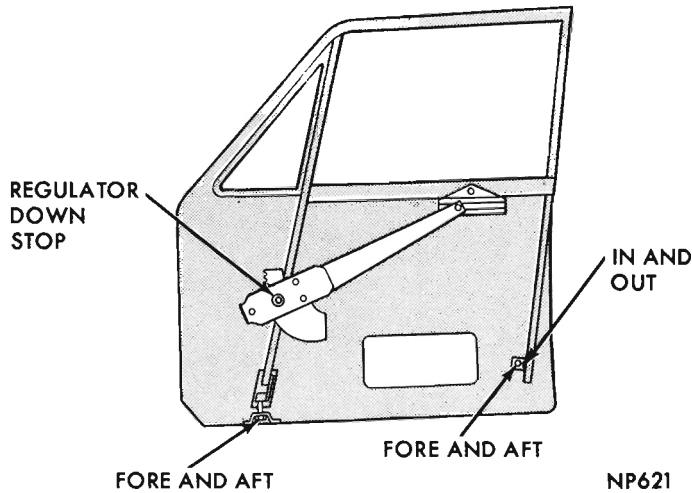

Fig. 4- Front Door Glass Adjustment (Sedan)
Fore-or-aft adjustment (Fig. 4) of the upper end is accomplished by moving vent wing up or down. The assembly moves forward and downward to relieve a binding condition of the door glass and
Lower glass and move division channel rearward to remove excessive looseness of glass without creating a binding condition. Tighten adjusting screws at lower end of channel (Fig. 4).
- (1) Loosen front run channel lower mounting screw (Fig. 4).
- (2) Move run channel forward and slide glass out of channel.
- (3) Remove regulator arm from lift bracket channel.
- (4) Remove glass from door.
- (5) Push plug out of lift bracket rivet.
- (6) Pinch expandable ends of rivet together and push rivet out of glass.